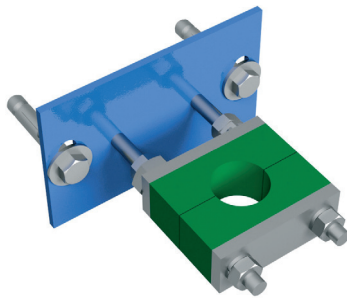

Fig. 12
- A stem support-guide is recommended (fig. 12) every 1.5 m.